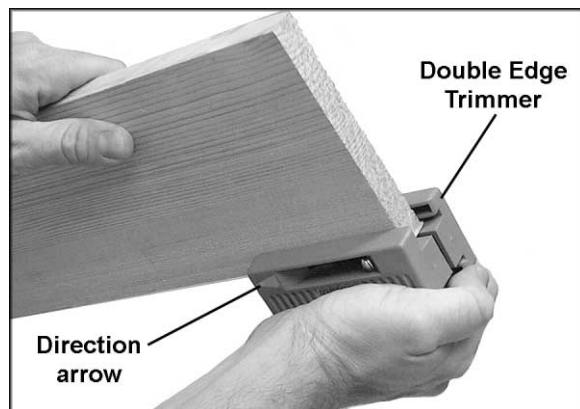

Figure 15
15. Trim the excess banding material from the workpiece. This can be done easily with the Double Edge Trimmer provided with your Edge Bander. See Figure 15.
16. The Double Edge Trimmer will work on materials 1/2" to 1" thick. Simply place the Trimmer over the banded edge of the workpiece and squeeze the Trimmer firmly to clamp it against the workpiece edge. Continue to squeeze it firmly, and slide the Trimmer down the edge of the workpiece in the direction of the arrows, as shown in Figure 15. Use steady, even pressure for best results.